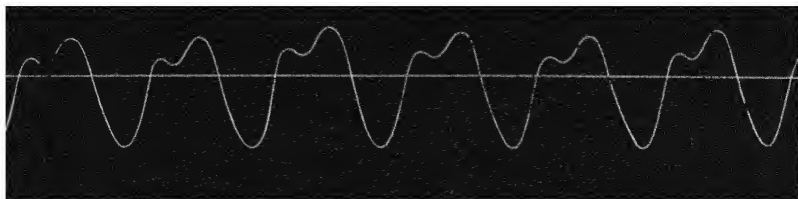

FIG. 308. Diagram of the sound wave sent out by a violin E string
3. Look at Figures 308 and 309. Why is the quality of a violin tone different from that of a clarinet?